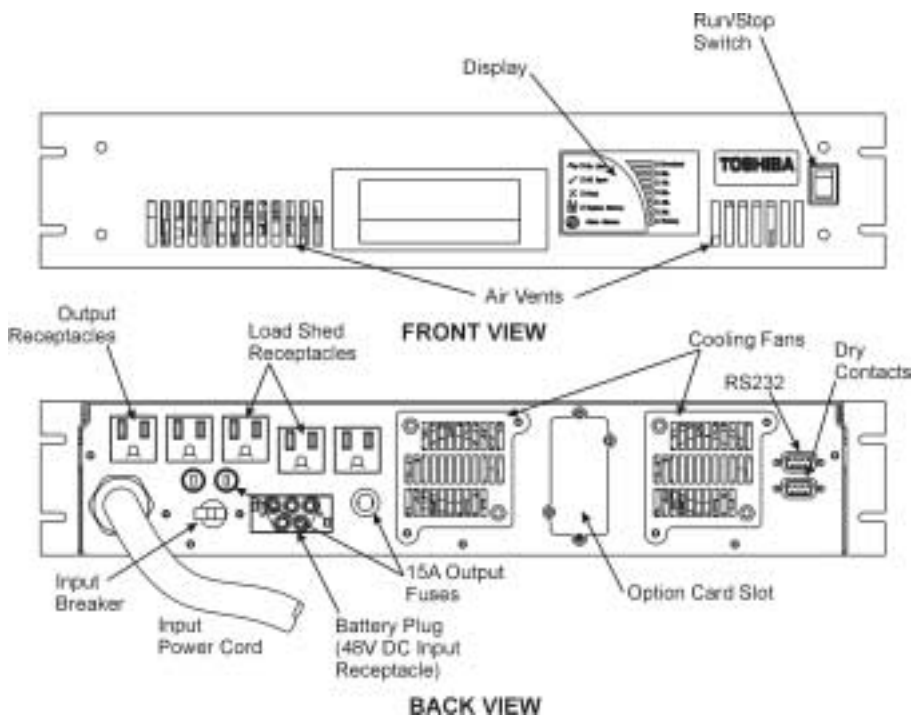

Figure 1
Once the modules have been connected as shown in the preceding section (UPS Connections, page 10) the UPS system is ready to be started. There are two ways to start the system: from AC input power (if present) or from batteries. If not already done, switch the input breaker on (figure 1, page 9). If the "AC Input" LED is lit, proceed on to "Starting when AC power is available". If the LED is not lit, there is no AC power available. If the unit is to be started when AC power is not available proceed to "Starting on DC power."
Step 1: Make sure the RUN/STOP switch is in the STOP position. If the UPS is being started on DC power because the AC power is out of range, the input breaker must be in the OFF position (figure 1, page 9).
Option 2: The other option is to turn the UPS off completely. This means that in addition to the UPS's inverter shutting down, **all power will be stopped to any equipment attached to the UPS.** To shut the UPS down completely switch the RUN/STOP switch to the STOP position. Then switch the input breaker off (figure 1, page 9). Once the input breaker has been switched off, all the LEDs should turn off. (If the RUN/STOP switch is in the RUN position when the input breaker is switched off, the unit will switch to battery backup mode. The unit will continue to run for as long as the available battery reserves can support the connected loads.)
The 1700 Series includes a load shed function. During battery backup operation, this function allows the load connected to two of the receptacles (figure 1, page 9) to be turned off in an effort to conserve power for more critical loads. The battery level at which these two receptacles will be turned off, or “shed”, can be set by the user (see “The Function Control Button”, page 16). By default, this feature is configured so that these two receptacles will remain on for the full battery backup time available (no “shedding”)